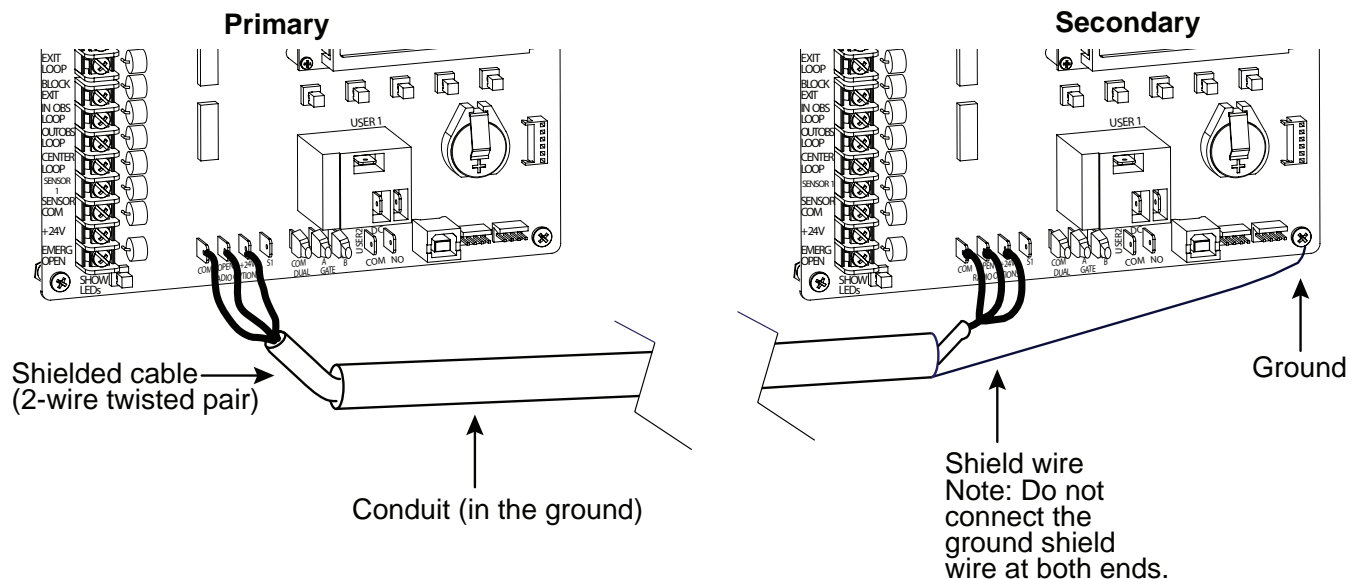

Figure 57. Primary-Secondary Pair Wiring Connections
- An electrical conduit for interconnecting wires must span between the two operators. The dual gate communication wires and any low voltage control wires must be installed in a conduit that is separate from the high voltage power wires. See Figure 57.
1. As shown in Figure 57, connect a two-pair twisted, shielded communications cable to the DUAL GATE inputs in each unit. The inputs are located near the base of the Smart DC Controller. Be sure to connect the wires in pairs to the same terminal ports (A-A, B-B, and COM to COM) on both units. See Table 15.
2. Attach a ring terminal to the shield wire and connect it to the Smart DC Controller's convenient ground screw. Refer to Figure 57.